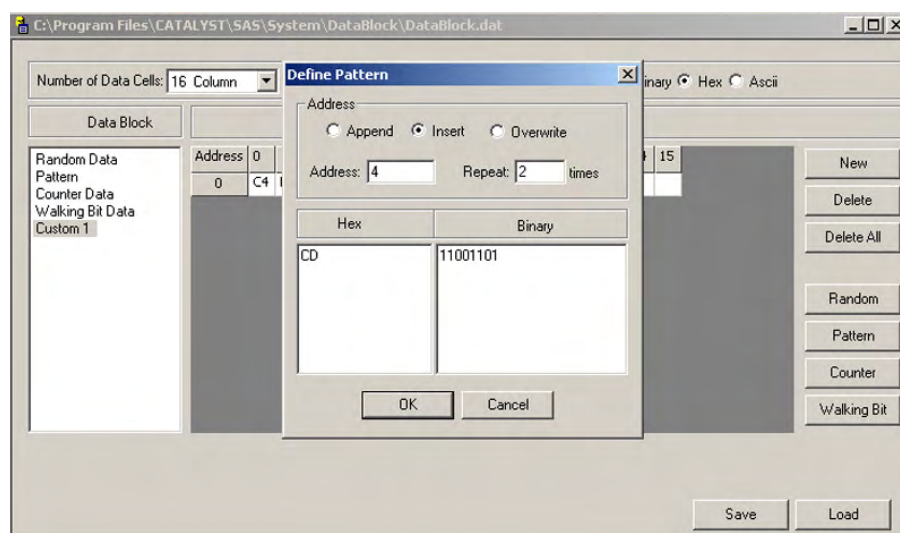

Figure 2.88: Define Your Own Data Pattern
1. Click **Pattern** to open the Define Pattern dialog box as shown in Figure 2.88: